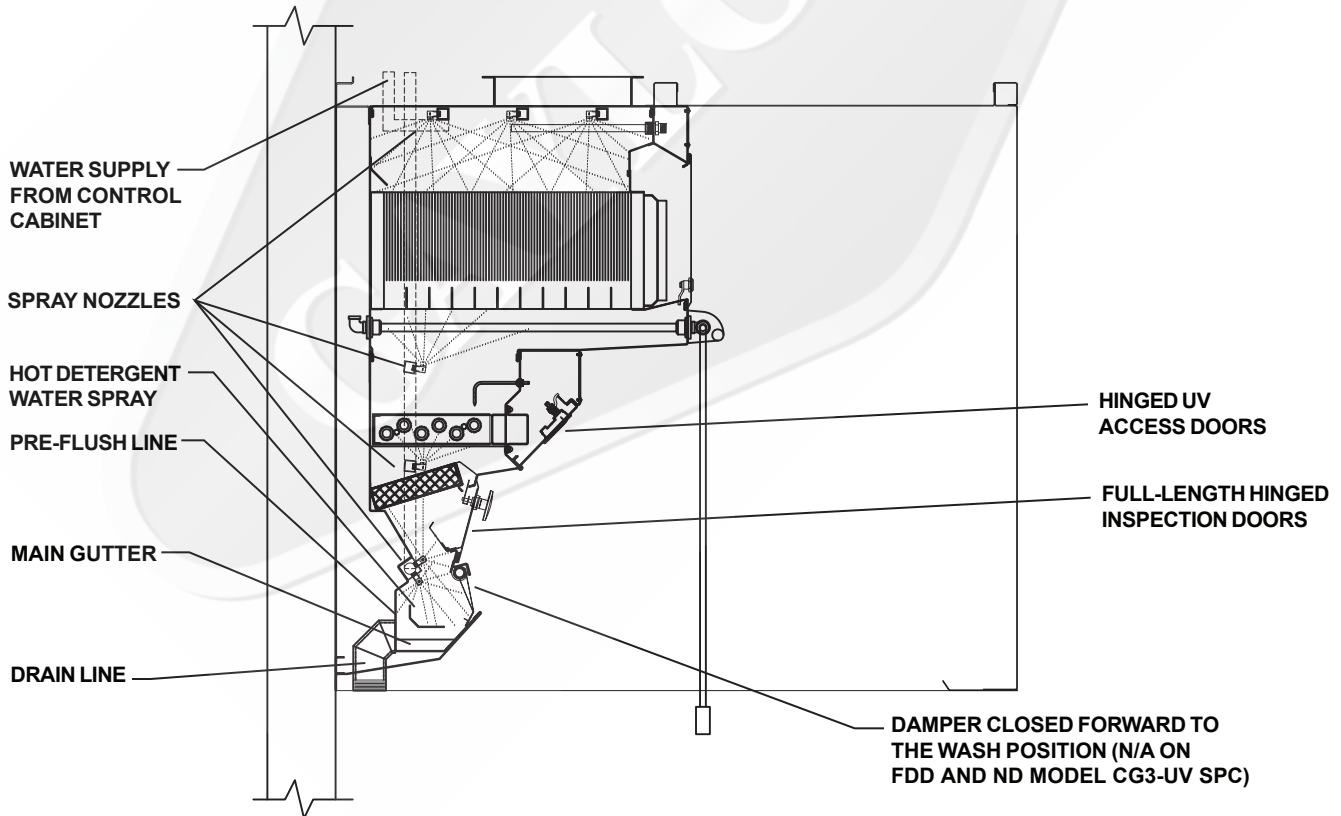

FIG. 3
3. The damper begins closing forward to the wash position. (See Figure 3, page 7). This action takes approximately 45 seconds. (N/A on FDD and ND models)